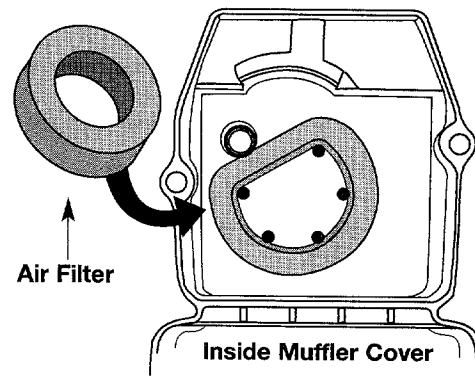

Figure 15
4. Turn cover over and look inside to locate the air filter. Remove the air filter from inside the air filter/muffler cover. See Figure 15.
8. Replace the air filter inside the air filter/muffler cover. See Figure 15.